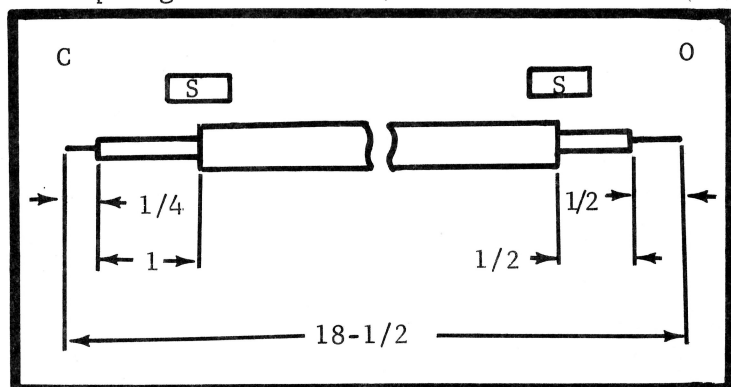

FIGURE 5. Dimensions for Cable #1 for Resistance Programing. Dimensions are in inches.
b. Prepare the 18-1/2 inch cable #1 as shown in Figure 5.
2. Cut off 1/4 inch of shield and insulation from end C, leaving bare 1/4 inch of wire. Also, cut off 1 inch of only the outer insulation from end C. Comb out the shield and wrap together. Use 3/4 inch of shrink tubing over the end as shown in Figure 5.
3. From end O, cut off 1/2 inch of both the outer insulation and the shield. Also, cut off 1/2 inch of only the outer insulation from end O. Put 3/4 inch of shrink tubing over the end as shown in Figure 5.